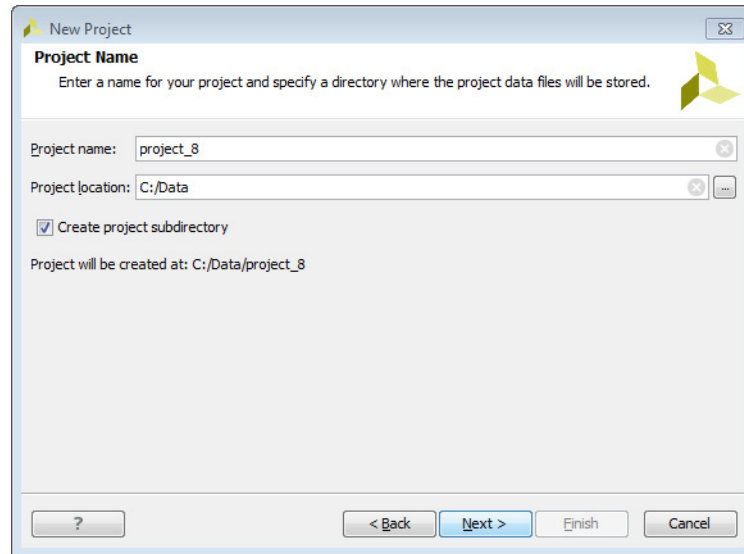

Figure 2-1: New Project Wizard—Project Name Page
3. In the Project Name page (Figure 2-1), set the following options, and click **Next**.